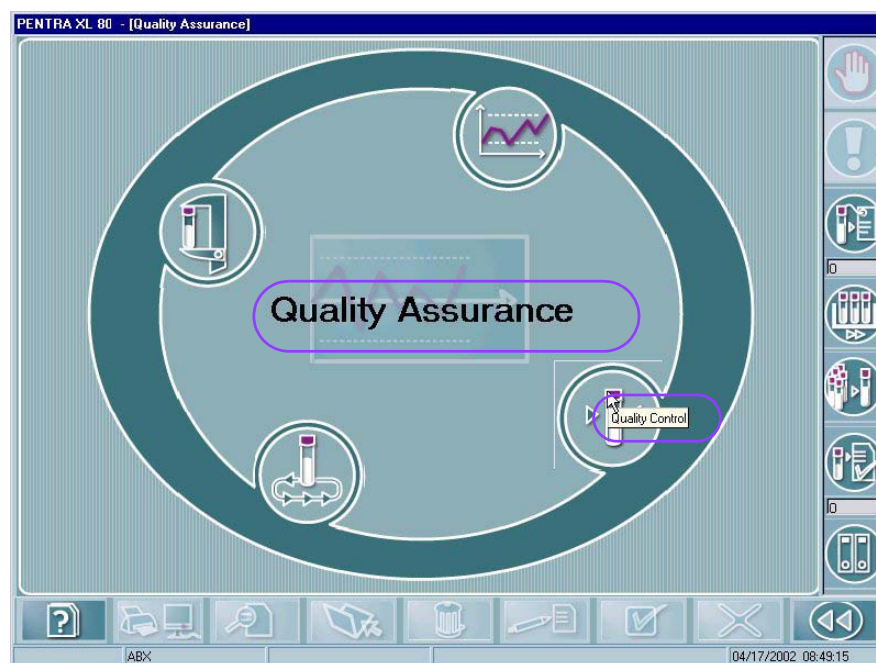

Fig. 1-11 Software arborescence and Hints
- ◆ Hints can be displayed by moving and holding the cursor on menus keys (see Fig. 1-11, page 1-18).